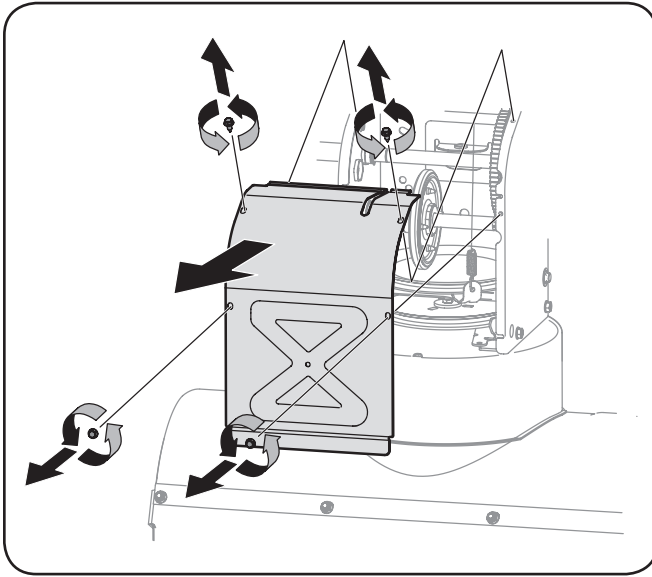

Figure 7-4
6. Remove the frame cover from the underside of the snow thrower by removing the self-tapping screws which secure it. See Figure 7-4.
3. Remove the frame cover from the underside of the snow thrower by removing four self-tapping screws which secure it. Refer to Figure 7-4.